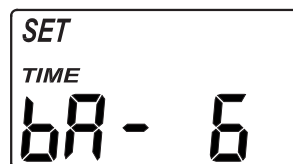

FIG. 41
2. Press the SELECT button twice, so that "SET TIME bA" appears in the display (See Figure 41).